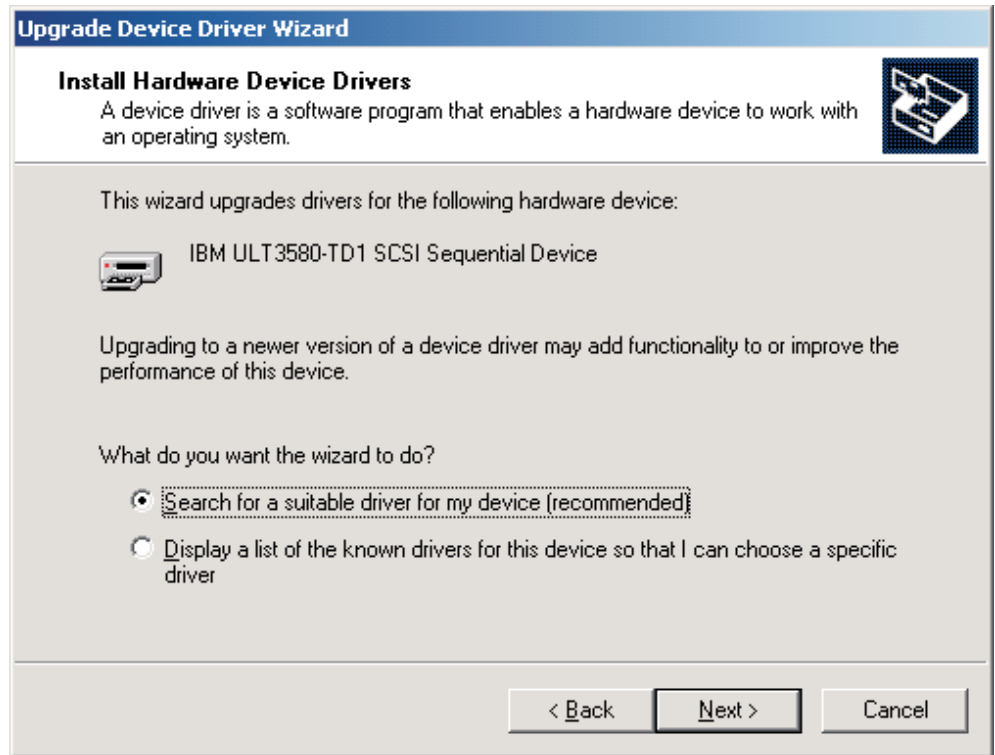

Figure 29. Install Hardware Device Drivers Dialog
4. An **Upgrade Device Driver Wizard** window opens. Click **N**ext > to open the window shown in Figure 29 on page 243. Click **S**earch for a suitable driver for my device (recommended), then click **N**ext >. A **Locate Driver Files** screen appears.